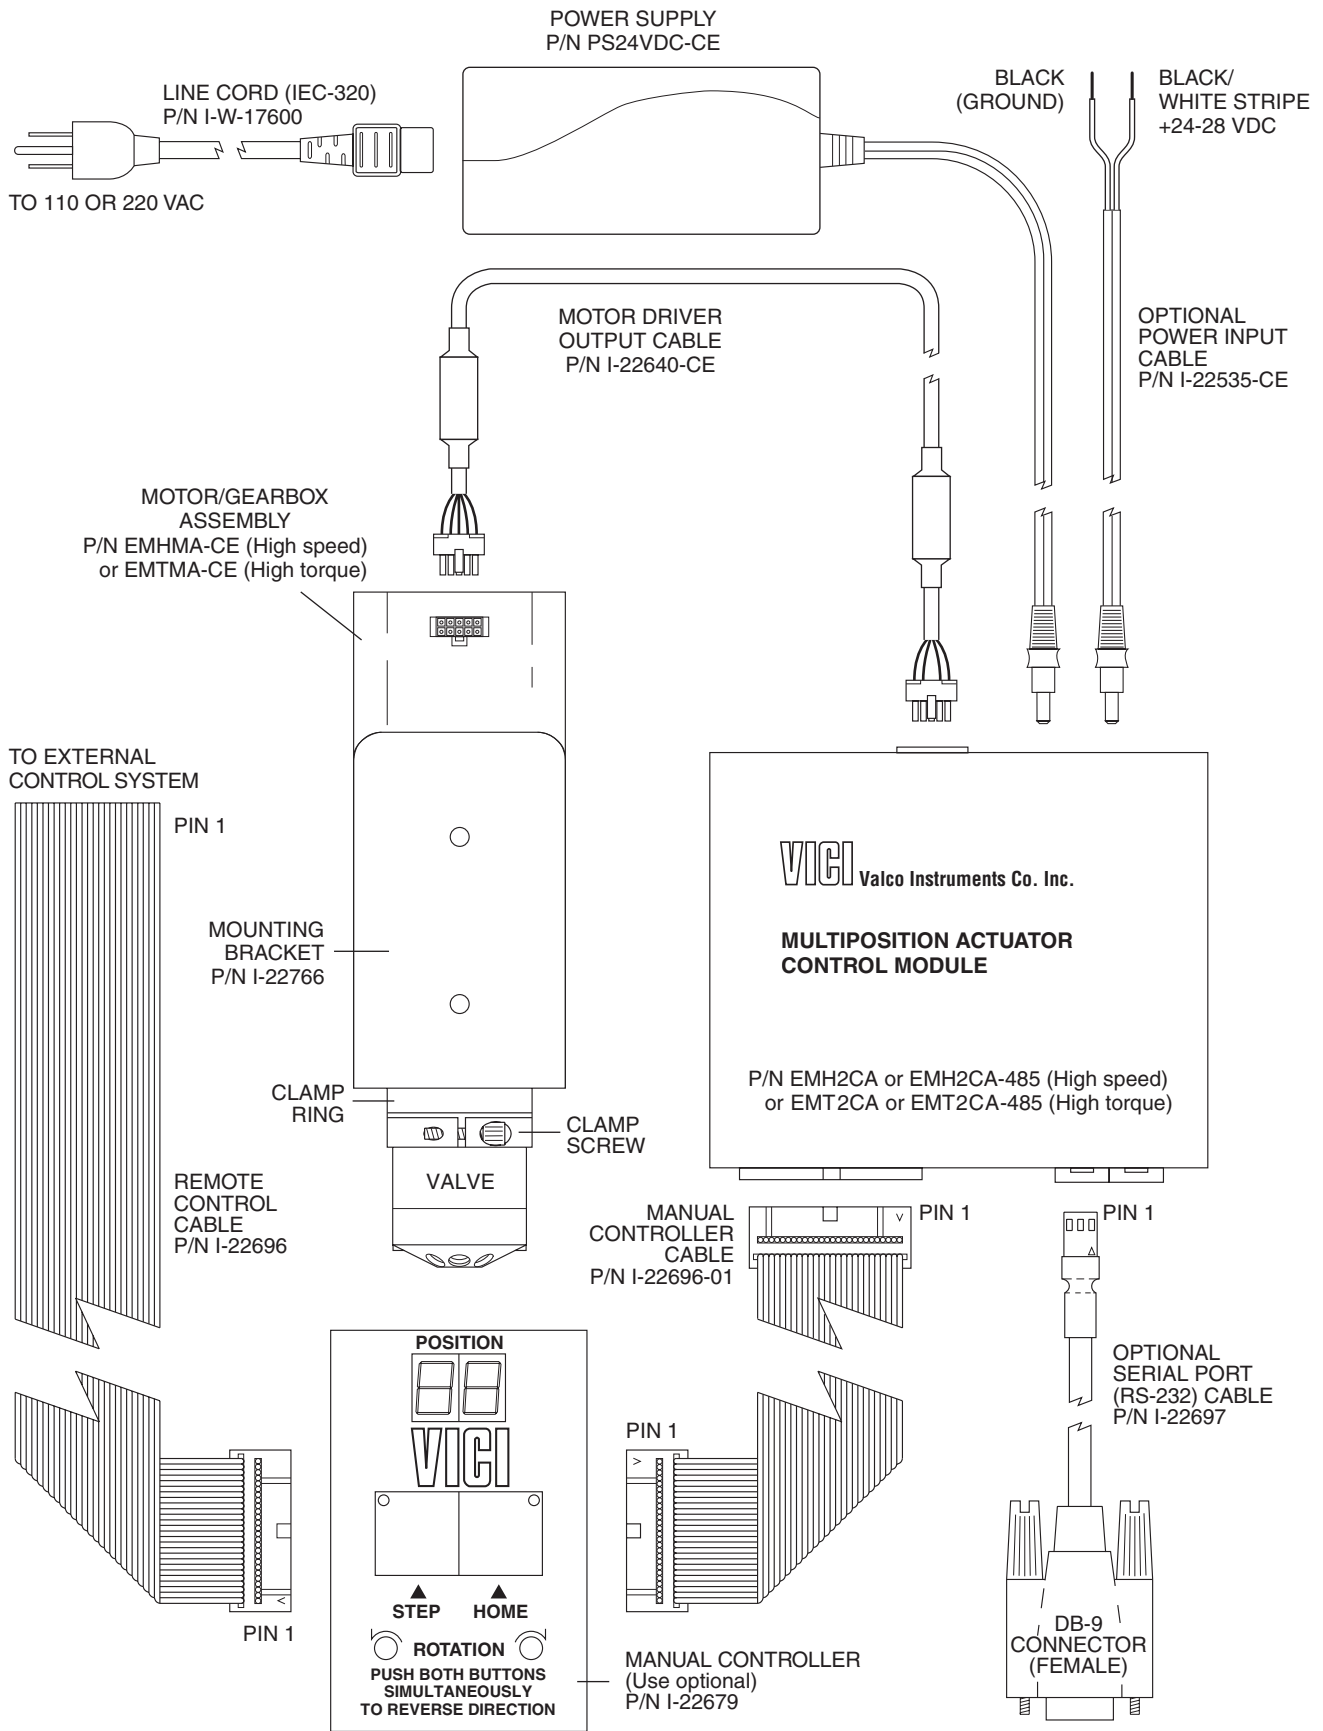

Figure 1: Actuator and controller connections
Figure 1 on the next page shows the functions of the cables supplied with the actuator. There are four connectors on the control module, keyed and sized to prevent incorrect connection.
1. Connect the I-22697 cable to the actuator as indicated in **Figure 1**, and set the serial port at 9600 baud, no parity, 8 data bits, 1 stop bit, no hardware or software handshaking.